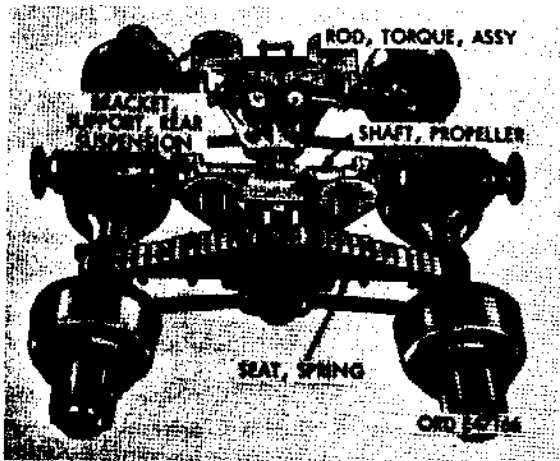

Figure 376. Rear suspension assembly
a. General. The rear suspension assembly is a tandem hookup using six identical torque rod assemblies (fig. 376), two upper and four lower. The load is equalized between axles by full-floating springs which oscillate on a cross shaft. Transverse movement of axles is prevented by spring guide brackets on axle housings. Driving and braking forces are transmitted to the frame by the six torque rod assemblies which also maintain correct vertical position of axles and prevent weight transfer between axles.
- (1) General. Both rear axles are identical and are hypoid, double-reduction, full-floating type. Each rear axle consists of the housing, differential and carrier assembly, and axle shafts. Power is transmitted from the transfer by a propeller shaft to the forward rear axle differential carrier assembly, and to the rear-rear axle differential and carrier assembly by a second propeller shaft (fig. 376) that connects both axles.
- (2) Housing assembly. The rear axle housing assembly is one-piece con-